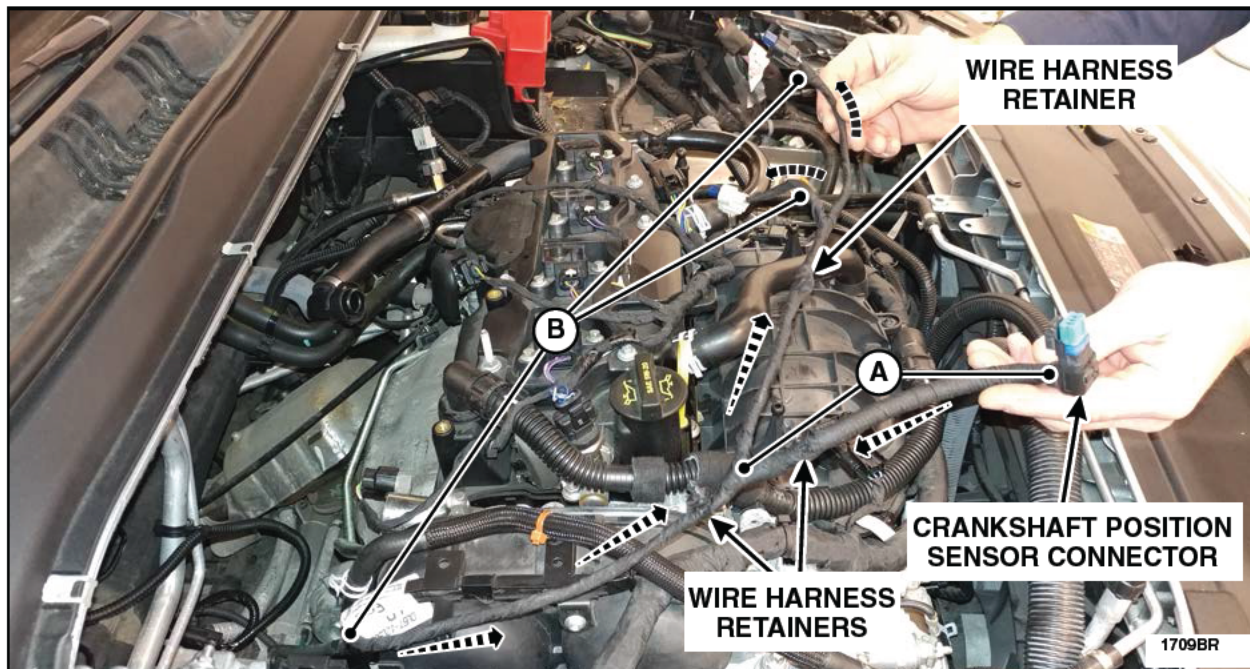

FIGURE F2
1. Route the turbocharger wire harness to the top of the engine compartment. See Figure F2.
3. Wrap the turbocharger wire harness convolute with the Coroplast® tape provided in the service kit. See Figure F2.
- Start and finish each length of tape applied with three (3) initial and three (3) finishing wraps.
- First, wrap the takeout for the crankshaft position sensor. Begin the wrap at the connector and end this portion of wrapping by going around the main harness at the takeout. See Figure F2, (A).
- Wrap the turbocharger harness starting at the side of the harness closest to the engine. Proceed down the remaining length of harness to the turbocharger wastegate regulating valve solenoid connector and turbocharger bypass valve electrical connectors. See Figure F2, (B).